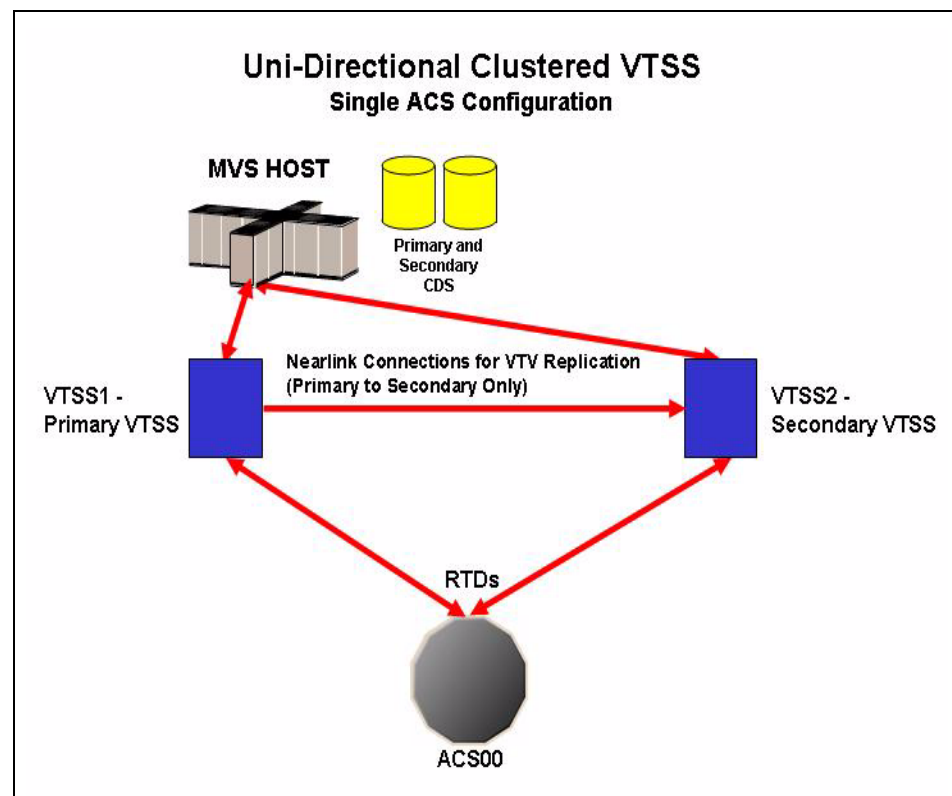

Figure 3. Uni-Directional Cluster attached to a Single ACS
- *Uni-Directional Clusters*, which consist of a *Primary VTSS* and a *Secondary VTSS* connected by one or more cluster links (CLINKs). Figure 3 shows a Uni-Directional Cluster attached to a single ACS. The `CONFIG CLUSTER` statement defines the Cluster, and the `CONFIG CLINK` statement(s) define this the Cluster as Uni-Directional.